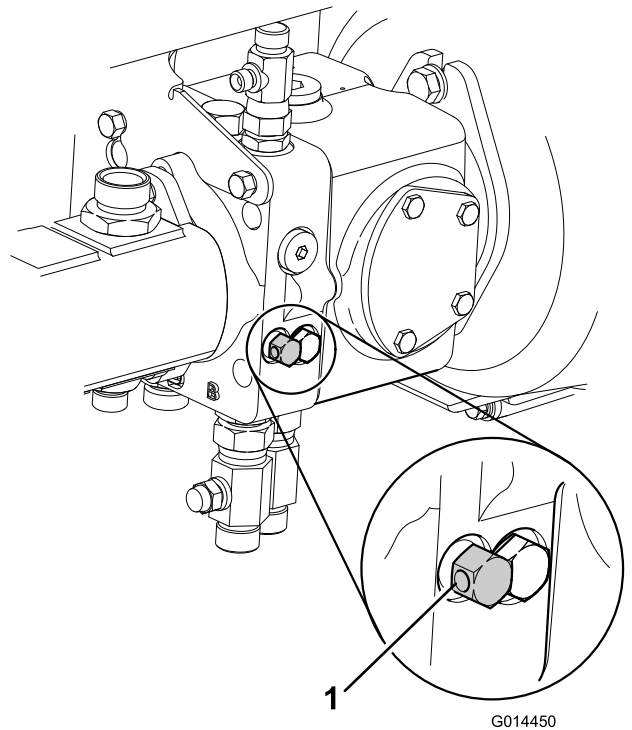

Figure 46
7. Release the hydraulic-braking system by turning the bypass valve, located under the transmission pump, counter-clockwise, a maximum of 3 turns (Figure 46).